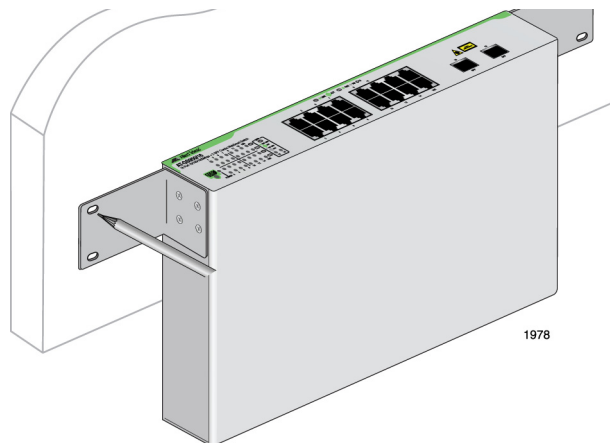

Figure 10. Marking the Screw Hole Locations
4. Have another person hold the switch at the wall location where the switch is to be installed, while you use a pencil or pen to mark the wall with the locations of the four holes in the brackets. The switch should be oriented such that its front faceplate is facing up and is level to the floor. See Figure 10 on page 35.